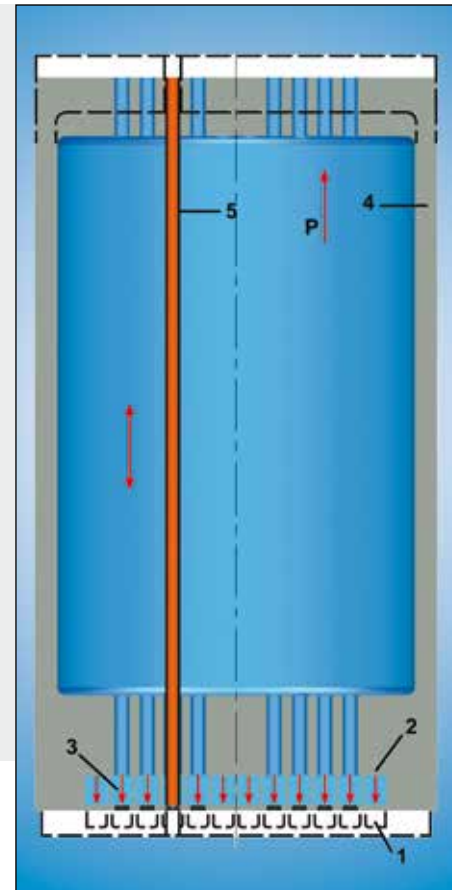

Fig. 3: Design principle
The principle of a design - which was developed by BORSIG in 1965 - and which perfectly combines the two requirements regarding pressure and temperature, can be seen in Fig. 3. A thin tubesheet (1) of only approx. 10-15 mm thickness is reinforced by a thick forged anchoring plate (2). The waterside pressure load on the thin tubesheet is transferred via anchoring ribs (3) to the thick forged anchoring plate (2) and from there to the cooler shell (4). The anchoring ribs (3) are machined out of the thin tubesheet (1) and the thick forged anchoring plate (2) thereby forming tunnels: “Tunnelflow” TLE.